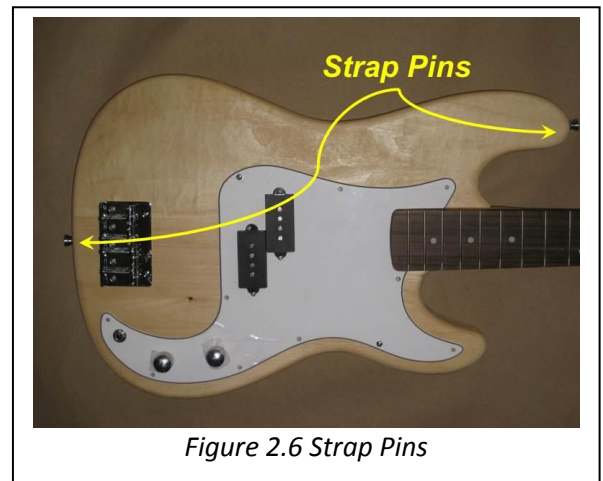

Figure 2.6 Strap Pins
1. Check for pre-drilled holes for the Strap Pins (item 12 on the material list), reference Figure 2.6.
- a. Mark the rear Strap Pin hole so that it is centered on the Neck/Bridge and the forward Pin on the most forward point on the top of the Body (see Figure 2.6).